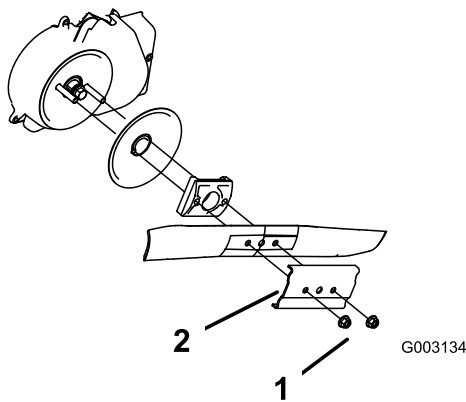

Figure 30
3. Remove the 2 blade nuts and the stiffener (Figure 30).
4. Remove the blade (Figure 30).
5. Install the new blade (Figure 30).